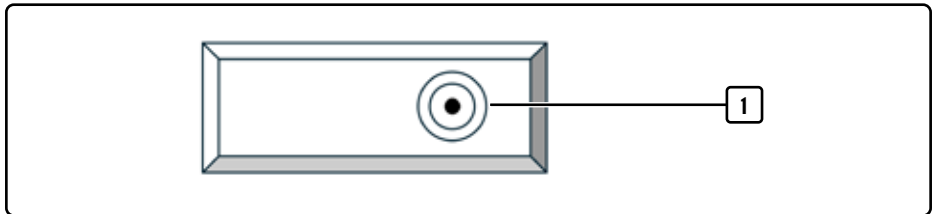

Fig. 7 Plan view of water tank
3. Insert the filter cartridge into the water filter adapter [1, Fig. 7] in the water tank so that it latches in place.